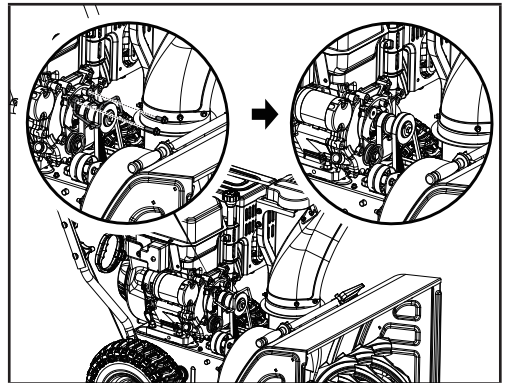

Figure 26
3. Remove the 2 bolts (20 mm/30 mm) holding the belt guard (Fig. 26). Note the spring is loose at this point.